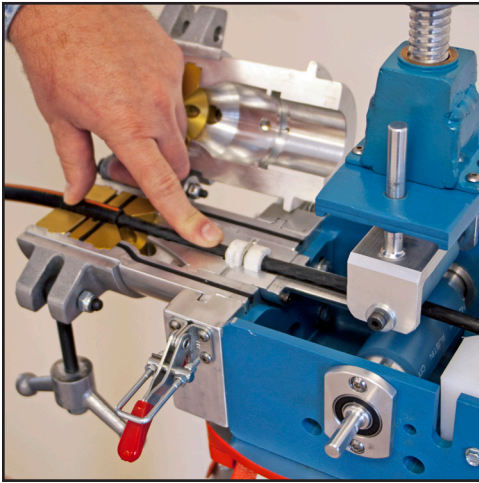

Figure 7. Select & Install Seals
6. Load cable through drive assembly. Select and install the appropriate size cable seals for the specific project. (See figure 7)